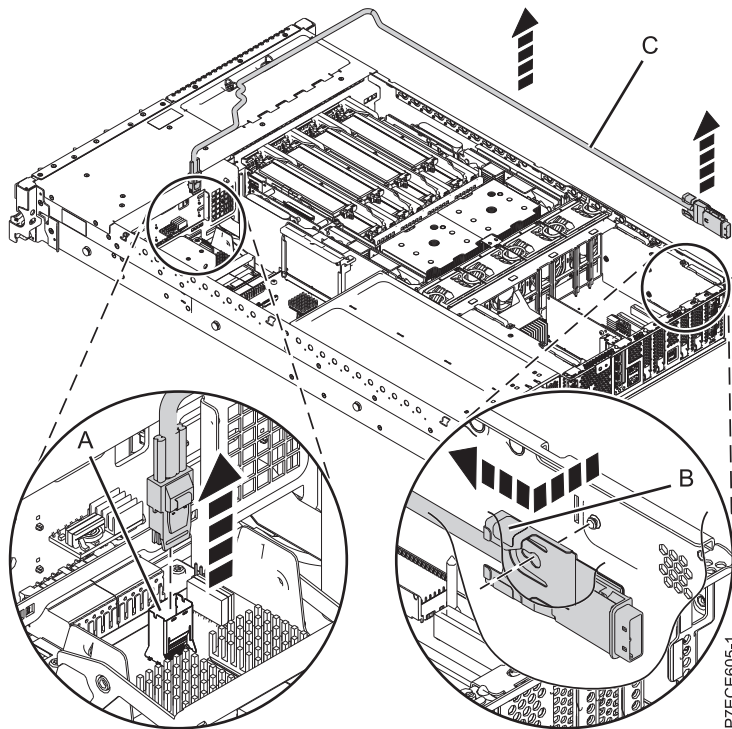

Figure 2. Removing the external SAS port
- 1) Press the side tab **(B)** and pull out the SAS shroud from the external SAS connection port on the disk drive backplane. See Figure 2.